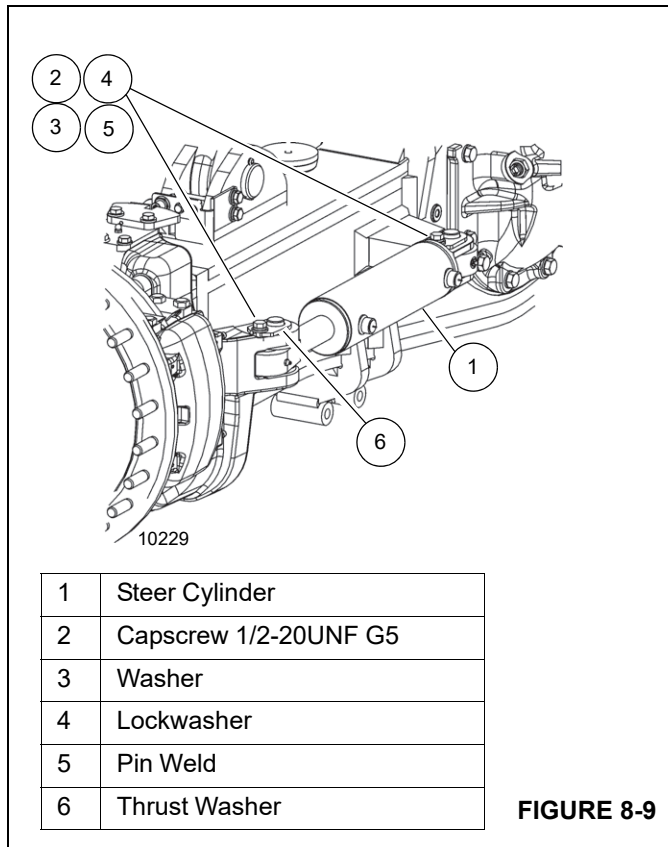

FIGURE 8-9
1. Tag and disconnect the hydraulic lines from the steer cylinder (1, Figure 8-9). Cap or plug all openings.
2. Remove the capscrew (2), flatwasher (3), and lockwasher (4) securing each pin weld (5) in the rod end and barrel end of the cylinder.